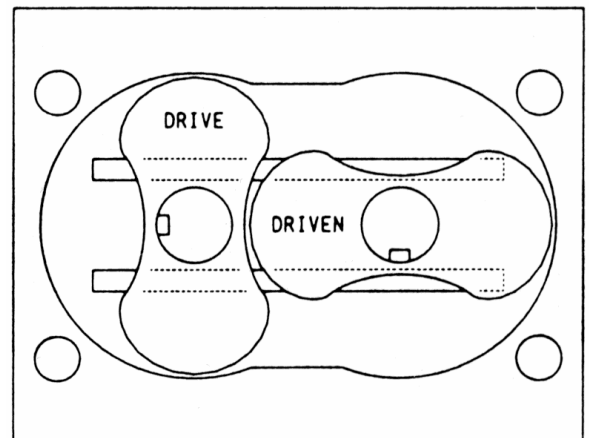

Figure 3. Positioning of Rotors & Housing for Assembly
- Place non-drive end plate on 6"x 6" blocks with the solid side up. The end plate must be blocked up so rotor shafts will not touch floor when they are installed. Grease and install O-ring (176) in end plate groove. Install housing (3) making sure dowel pins are in place. Do not bolt in place at this time.
- Lay two pieces of steel approximately 2" x 2" x 1/8" thick at the bottom of the housing as shown in Figure 3 with the end (long shafts) up. The rotor lobes will be above the end of the housing which is necessary when assembling this end.
- Grease and install O-ring (176) in groove of gear end plate. Use sufficient grease to hold it into place when the end plate is turned over.